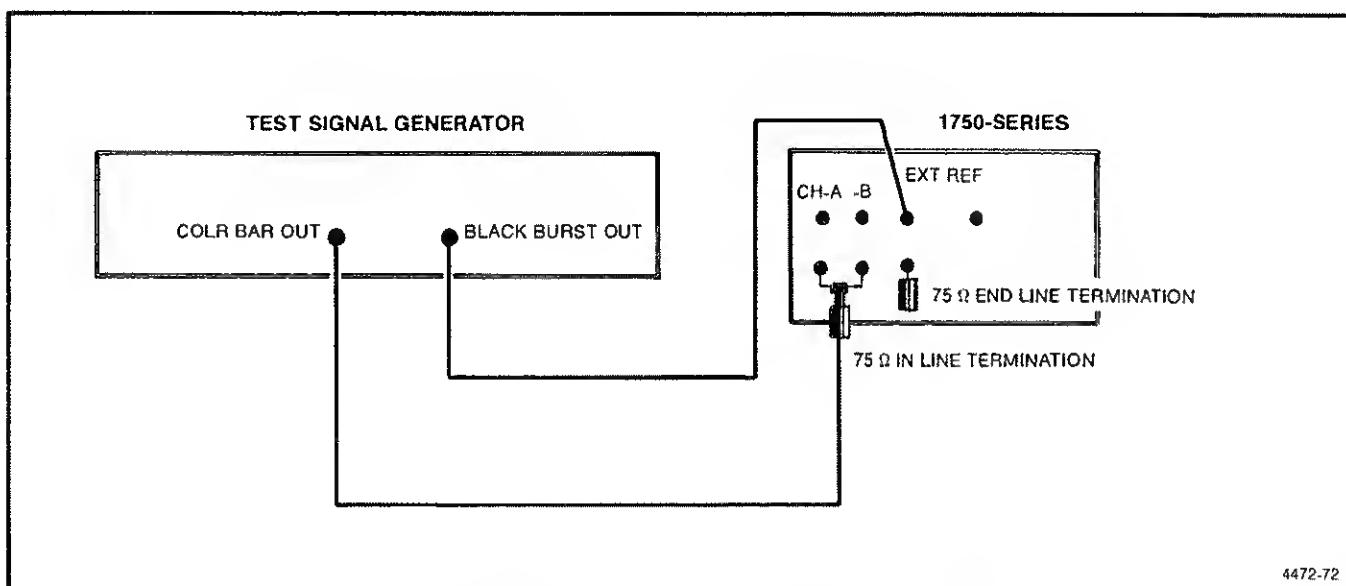

Fig. 5-5. Driving both CH-A and CH-B INPUTS with Color Bar signal.
a. See Fig. 5-5. Connect the Color Bar through a  $75 \Omega$  coaxial cable, a  $75 \Omega$  feedthrough terminator, and a dual input coupler to the CH-A INPUT and CH-B INPUT. Connect the Black Burst signal to the EXT REF LOOP-THRU. Select EXT REF. Display the Color Bars of INPUTS A and B alternately with the VECTOR display.